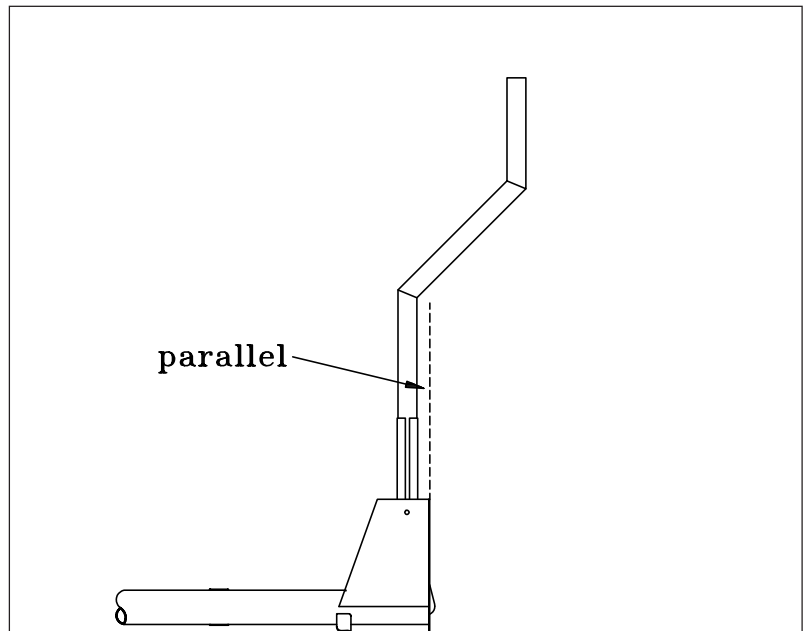

Figure 19 Neutral Position of the Rear Control Stick
- 2 Secure the rear control stick in the neutral position. (Vertical back plane of the torque tube parallel to the control stick like shown in Figure 19).